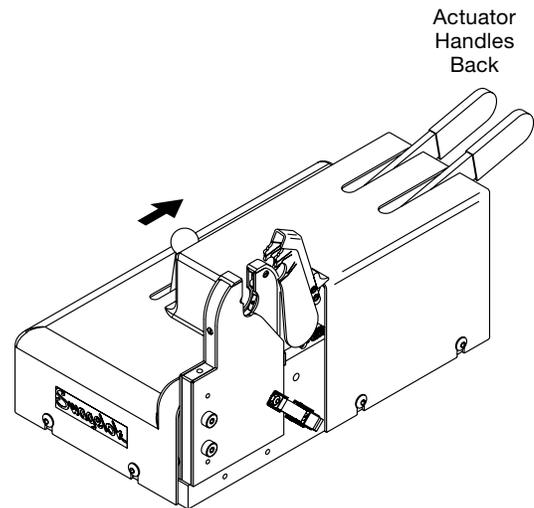

Figure 31 Positioning the Weld Head for a Tool Change
2. Push and hold the tool change lever back while pushing each actuator handle to its rear-most position. Once each handle is back, release the tool change lever to lock the handles in the tool change position. See Figure 31.